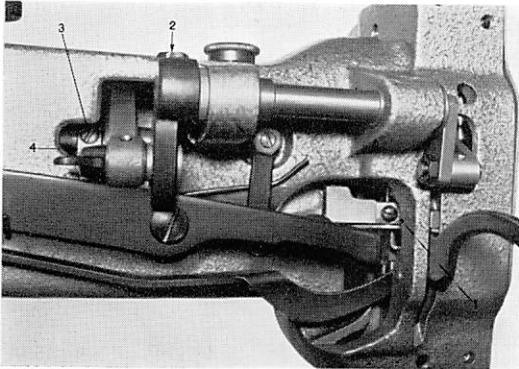

Fig. 27
Loosen the screw (1, Fig. 2) sufficiently, raise the presser bar lifter and loosen the set screw (1, Fig. 27).
A. Lower the presser bar lifter, holding the vibrating presser foot (5, Fig. 7), loosen the hexagon screw (2, Fig. 27) and move the presser foot up or down as may be required.
To adjust this, set the lift of the alternating presser feet to equal, loosen the two screws (3, Fig. 27) and adjust the rotating position of the cam (4, Fig. 27) faster or slower as may be desired, and tighten the screw.